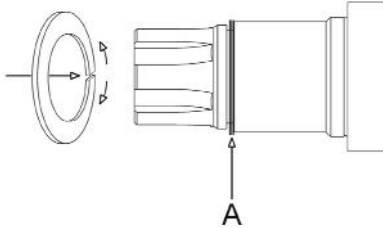

Figure 19 - Fitting Shims
- e) To fit the shims open them slightly and slide onto the shaft up to the shoulder (A) - see figure 19. NOTE: New shims are not cut, this will need to be done with scissors prior to fitment. **(LH32 and LH34 shims are not split)**
- f) Fit the shims and retain them with the O-ring (31). **(No O-ring on LH32 and LH34 models)**
- g) Refit rotors and tighten retaining bolts (59) to correct torque. Recheck end clearance and re-adjust if necessary.